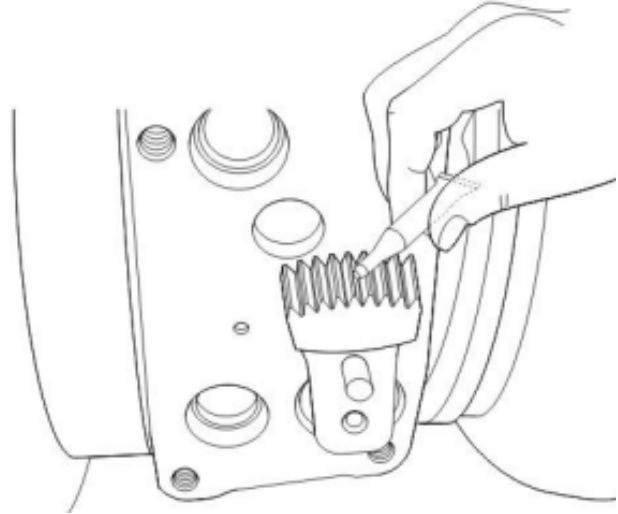

FIGURE 12
16. Lubricate the sector gear teeth using the grease applicator tube that comes in the installation kit (FIGURE 12).